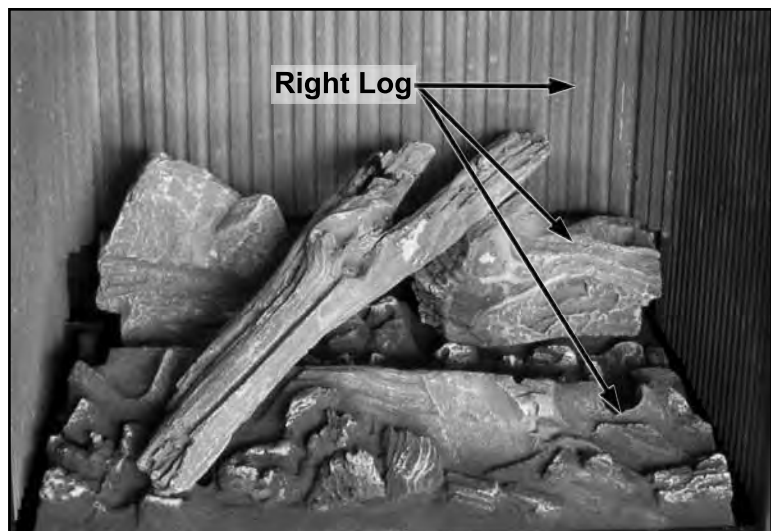

Figure 55: Log Placement of Right Log.
4. Place the bottom of the Right Log in the ledge at the front right of the burner and rest the top of the log against the rear panel as shown in Figure 55 and 56.